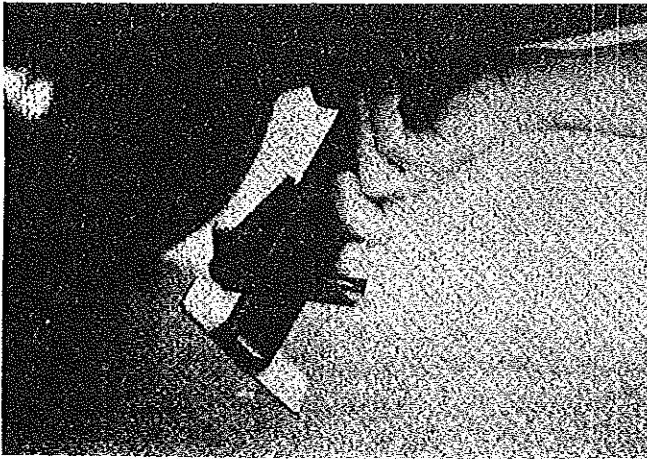

FIGURE 8
12. The Roanoke and Cedar models are equipped with three stabilizer jacks, one in each rear corner and one on the front left side of the A-Frame opposite the tongue jack. The Royale and Rio Grande are equipped with four stabilizer jacks, one in each rear corner of the trailer and one on either side of the A-frame near the front frame cross channel. To release the stabilizer jacks from the locked travel position, reach under the trailer, firmly grasp the jack and push it toward the center of the trailer (approximately 1/2"), and swing down to lock the jack in the lowered position. See Figure 8.